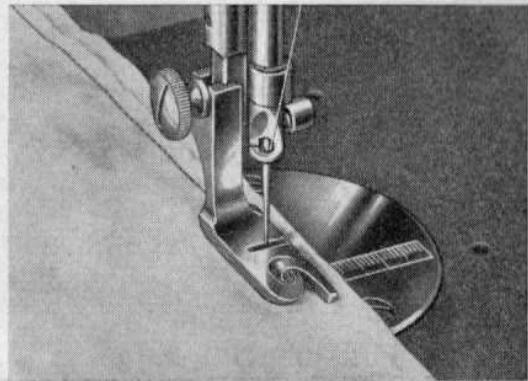

FIG. 41
1. Lay two pieces of cloth one on top of the other with their *right* sides facing each other. The right edge of the bottom piece must extend about $\frac{1}{8}$ " beyond the right edge of the top piece. See fig. 41.
2. Sew both pieces of cloth together, using the hemmer foot like a regular presser foot. Use the right edge of long toe of hemmer foot to guide the bottom piece of material, while the left edge of the same toe serves as a guide for the top piece of material. Fig. 41 shows this detail.